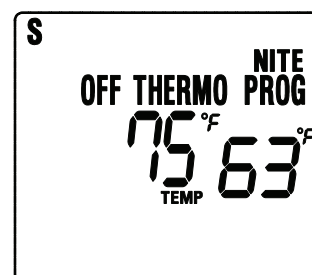

Fig. 11 Program Mode
Step 3: Press the MODE button a third time to put the system in PROG (Program) mode (Fig. 11).